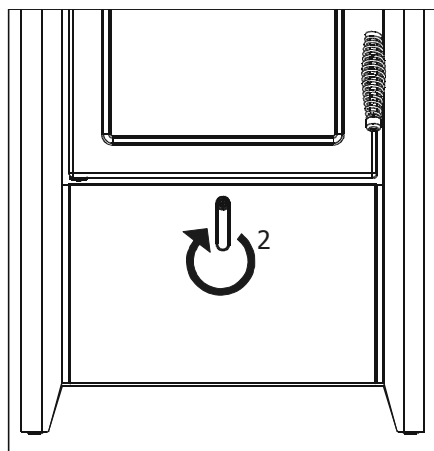

Fig.6 Secondary air inlet
Secondary air, as mentioned above, allows the completion of combustion and increases the efficiency (lever in pos.2 - fig.6).
The position of the lever in fig.6 determines the nominal output, minimizing primary air and the secondary air inlet.